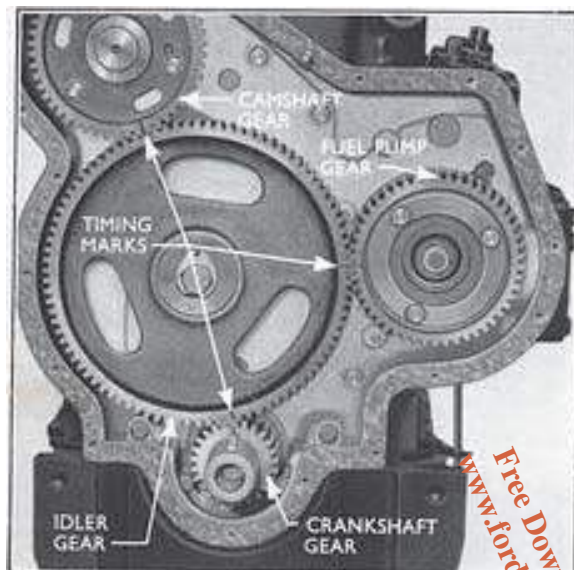

Fig. 8
The camshaft and the fuel pump are driven by the crankshaft gear via an idler gear. All the gears are suitably marked during production to facilitate re-timing, the marks being in line, when No. 1 piston is at top dead centre on its compression stroke (see Fig. 8).
1. Turn the crankshaft until all the timing marks on the gears are in line (see Fig. 8).
2. Fit the new idler gear on the spigot with the long tapered centre boss of the gear towards the cylinder block, and the timing marks aligned (see Fig. 8).
1. Turn the crankshaft until the timing marks on the gears line up as in Fig. 8.
7. Refit the idler gear, at the same time turning the camshaft so that the timing marks on all gears line up as shown in Fig. 8.
5. Check that all gear timing marks line up as shown in Fig. 8.
1. Turn the crankshaft until all the timing marks are in line (see Fig. 8).